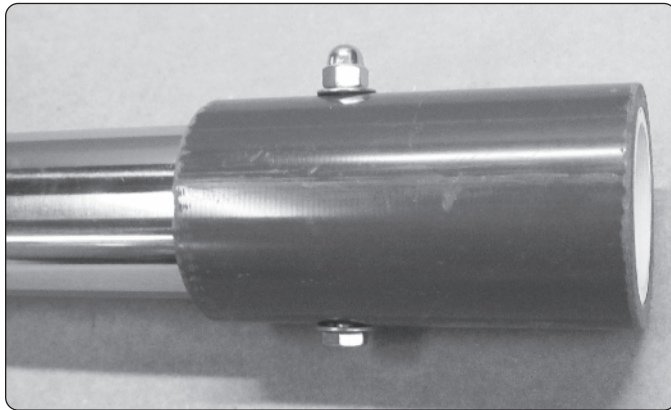

Figure 9: Pool/Spa Seat Receiver Pole
7. Bolt post receiver to support pole and tighten. **See Figure 9.**